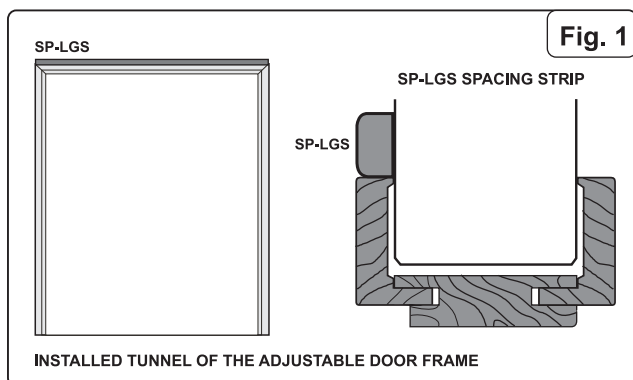

Fig. 1
2. Cut the SP-LGS spacing strip to the size corresponding to width of the adjustable door frame tunnel – the upper masking band (fig. 1).
3. Fix the cut SP-LGS spacing strip directly over the tunnel by means of anchors in 50 cm intervals – min. 3 anchors are recommended (fig. 1).